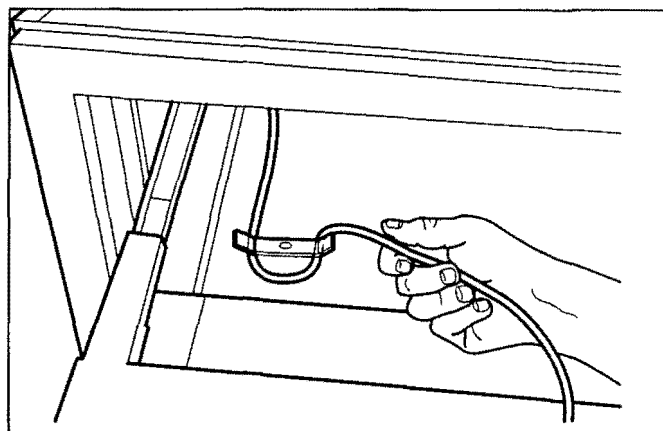

Figure 2-4. Display Cable
- b. Disconnect display cable from left of rear duct by turning counterclockwise and pulling (Figures 2-4, 2-5 & 2-6).